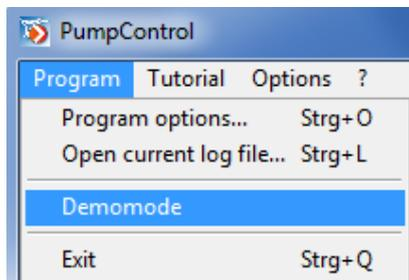
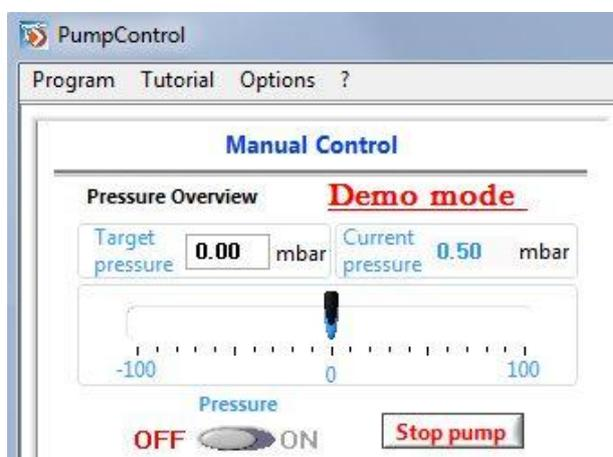

Figure 2: Changing from Demo mode to standard mode and back.
Figure 3: Indication of the demo mode in the main window.
- If the Pump is recognized by the computer, the main window opens in standard operating mode (not in demo mode!). If the demo mode is activated (red text in Figure 3), switch back to standard mode by clicking on the option 'Demomode' in the program menu (Figure 2):